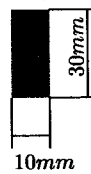

FIGURE Q2: Beam structure
- Q2 Figure Q2 shows a beam structure. The beam is loaded by distributed load along the span and at the middle of the beam, a concentrated load is also applied. This structure is made of Aluminum with Young's modulus of 70000 N/mm^2 .
By dividing the structure into 2 elements as shown Figure Q2,